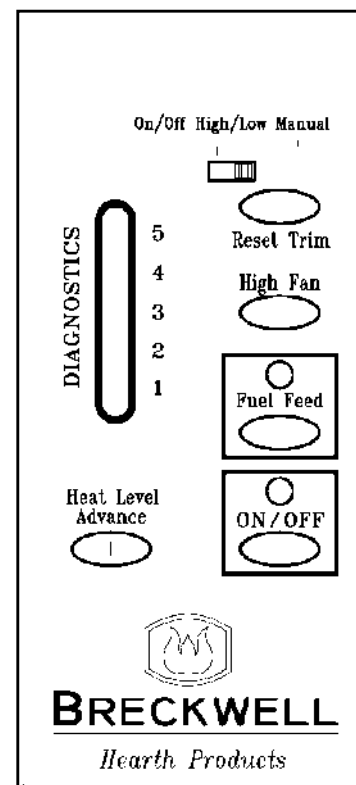

FIGURE 19
PANEL CONTROLS (SEE FIGURE 19)
- The green light located above the On/Off button (in the On/Off box) will flash during the ignition start-up period. (See figure 19)
- While the stove's auger system is feeding pellets the green light (in the "Fuel Feed" box) will be illuminated. (See figure 19)